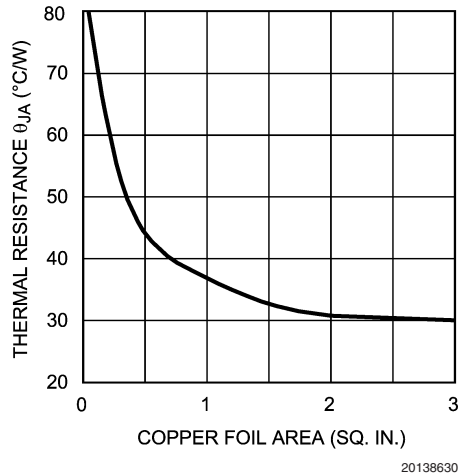

FIGURE 4. Thermal Resistance (typ) for 7-L TO-263 Package Mounted on 1 oz. (0.036 mm) PC Board Foil
5. Choose a copper area that will guarantee the specified TJ(MAX) for the calculated θJA. θJA as a function of copper area in square inches is shown in *Figure 4*.
4. Finally, using this value for θJA choose the minimum value of copper area from *Figure 4*.